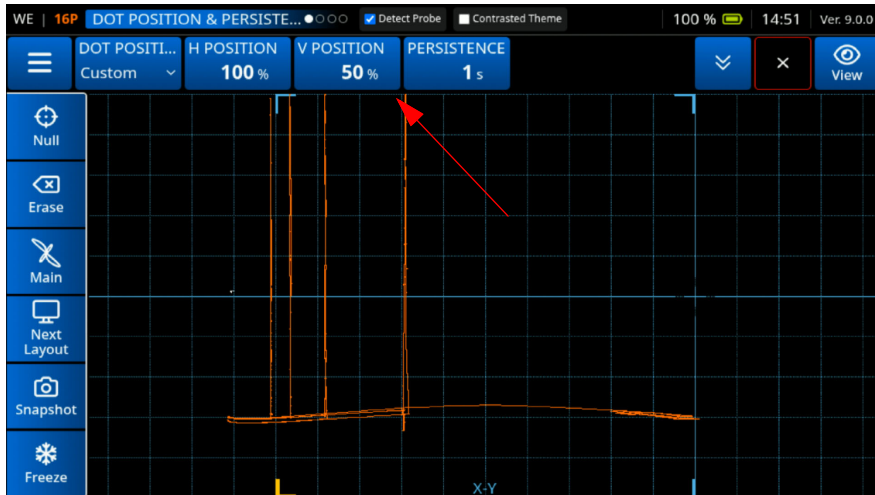

Figure 3-51 Set 50% V Position
1. Set the **V Position** to 50% and press **Erase** (See Figure 3-51 on page 81).